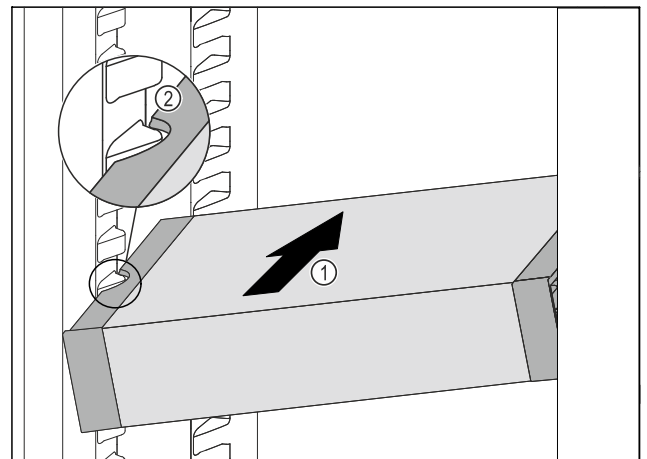

Fig. 89
- ▶ Insert the VarioSafe into the fridge section at an angle Fig. 89 (1) until the recesses in the side Fig. 89 (2) of the VarioSafe are at the level of the support rib in the fridge section.